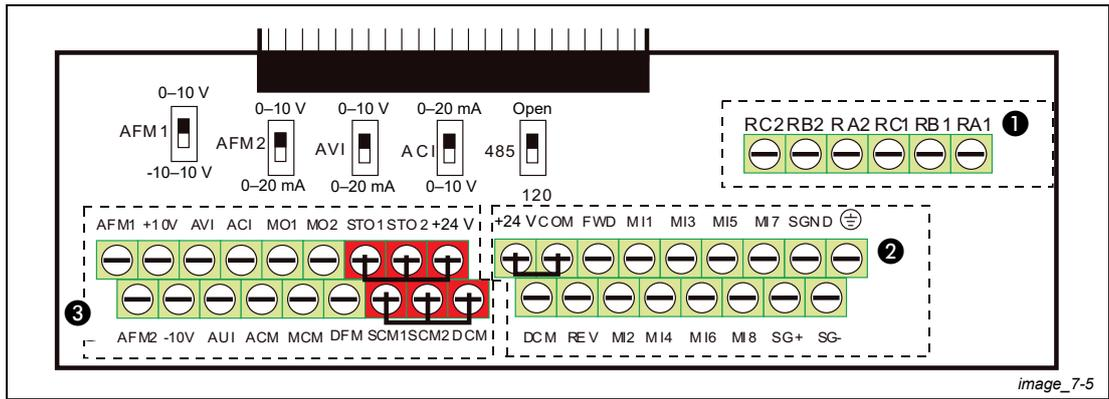

Fig. 7-5: Removable terminal block
- In the figure above (Fig. 7-5), the factory setting for STO1, STO2, +24V and SCM1, SCM2, DCM are short circuit. The +24V from area ③ of above figure (Fig. 7-5) is for STO only, and cannot be used for other purposes. The factory setting for +24V-COM is short circuit and SINK mode (NPN); please refer to chapter 5 “Wiring” for more detail.
- ① and ② is 3.5 mm (wide) x 0.6 mm (thick); ③ is 2.5 mm (wide) x 0.4 mm (thick)